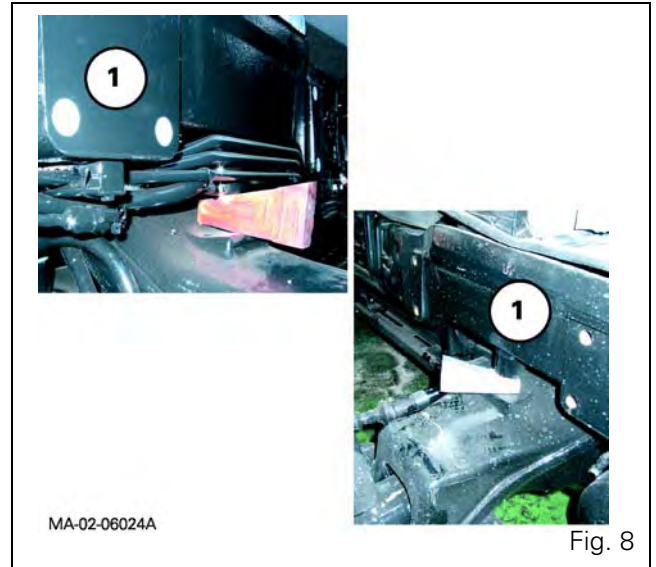

Fig. 8
19. Cancel the front axle oscillation (all versions) by sliding a suitable chock in at each side of the support (1) (Fig. 8).